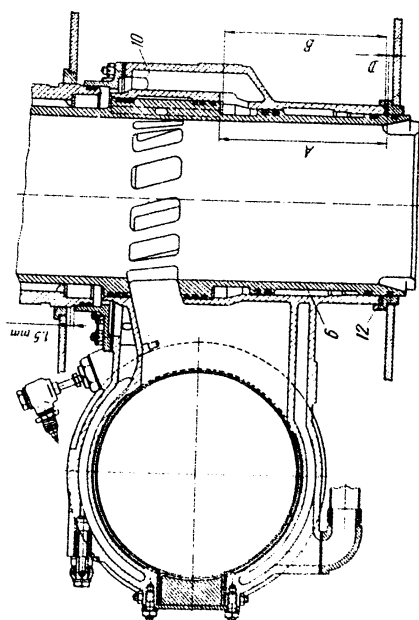

FIG. 79. MOUNTING THE EXHAUST BOX
- (d) measure distance B (see Fig.79) on the removed and the newly installed manifold sections (from the section bearing surface to the step formed at the place where the section 280 mm inner diameter surface curves into a 284-mm diameter).